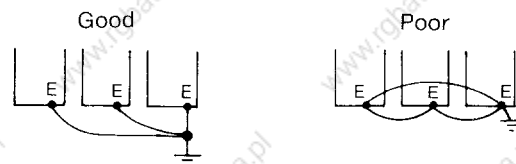

Fig. 4.3 Grounding of Three VS-626MTIII Units
- (3) Make a positive grounding using ground terminal E on the casing of VS-626MTIII.
- Where several VS-626MTIII units are used side by side, all the units should preferably be grounded directly to the ground poles. However, connecting all the ground terminals of VS-626MTIII in parallel, and ground only one of VS-626MTIII to the ground pole is also permissible (Fig. 4.3). However, do not form a loop with the ground leads.